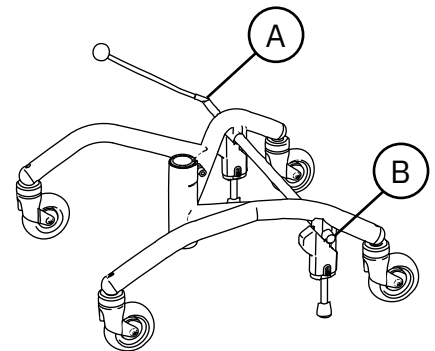

Figure 5.47. Brake lever.
The brake lever can be placed on the right (A) or left (B) side of the base, see Figure 5.47.